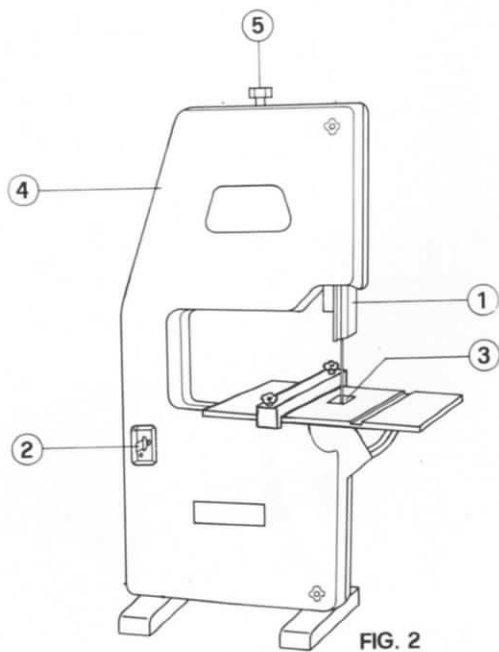

FIG. 2
2. MAIN COMPONENTS - See Fig. 2 - 5